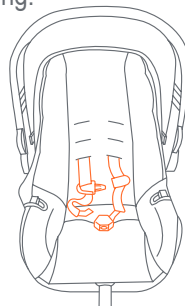

Fig. 36-1
3. Place the Safety Seat on a firm and level surface. Move the carry handle to the non rocking position. Loosen the Harness Straps by pulling on the straps while pushing on the Harness Adjuster Button located below the pad just in front of the buckle. Unfasten the Harness Chest Clip. Unbuckle the Harness Straps and drape the Harness Straps over the Seat back or to the sides of the Safety Seat (Fig. 36-1).